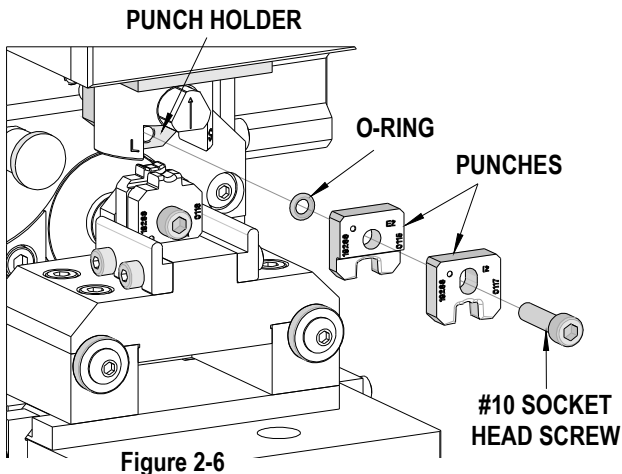

Figure 2-6
3. To remove the punches, use a 5/32" hex wrench to remove the #10 socket head screw holding the punches to the punch holder. See Figure 2-6.